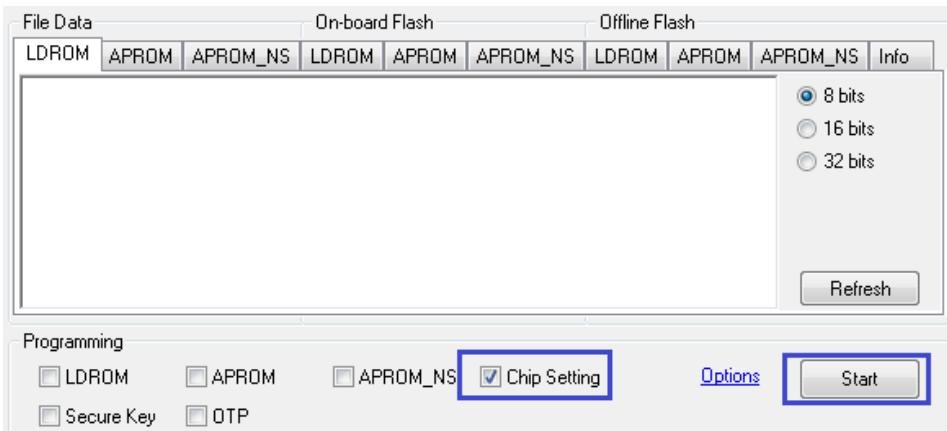

Figure 4-4 Start Programming
8. Select “Chip Setting” and click “Start” button to program XOM configure settings and enable XOM, as shown in Figure 4-4.